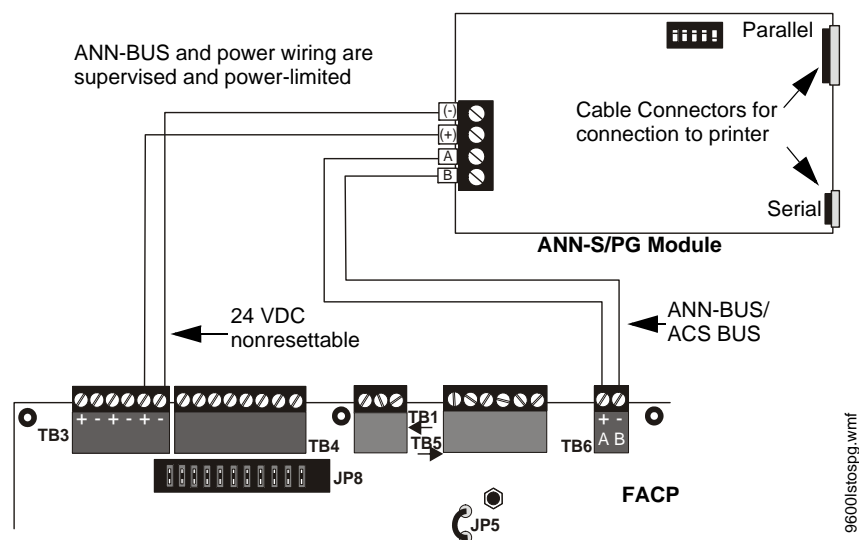

Figure 2.23 ANN-S/PG Connection to FACP
2. Connect the ANN-S/PG to the FACP as illustrated in Figure 2.23.
5. Connect a printer to the ANN-S/PG Parallel or Serial connectors (refer to Figure 2.23). Only one printer can be connected.